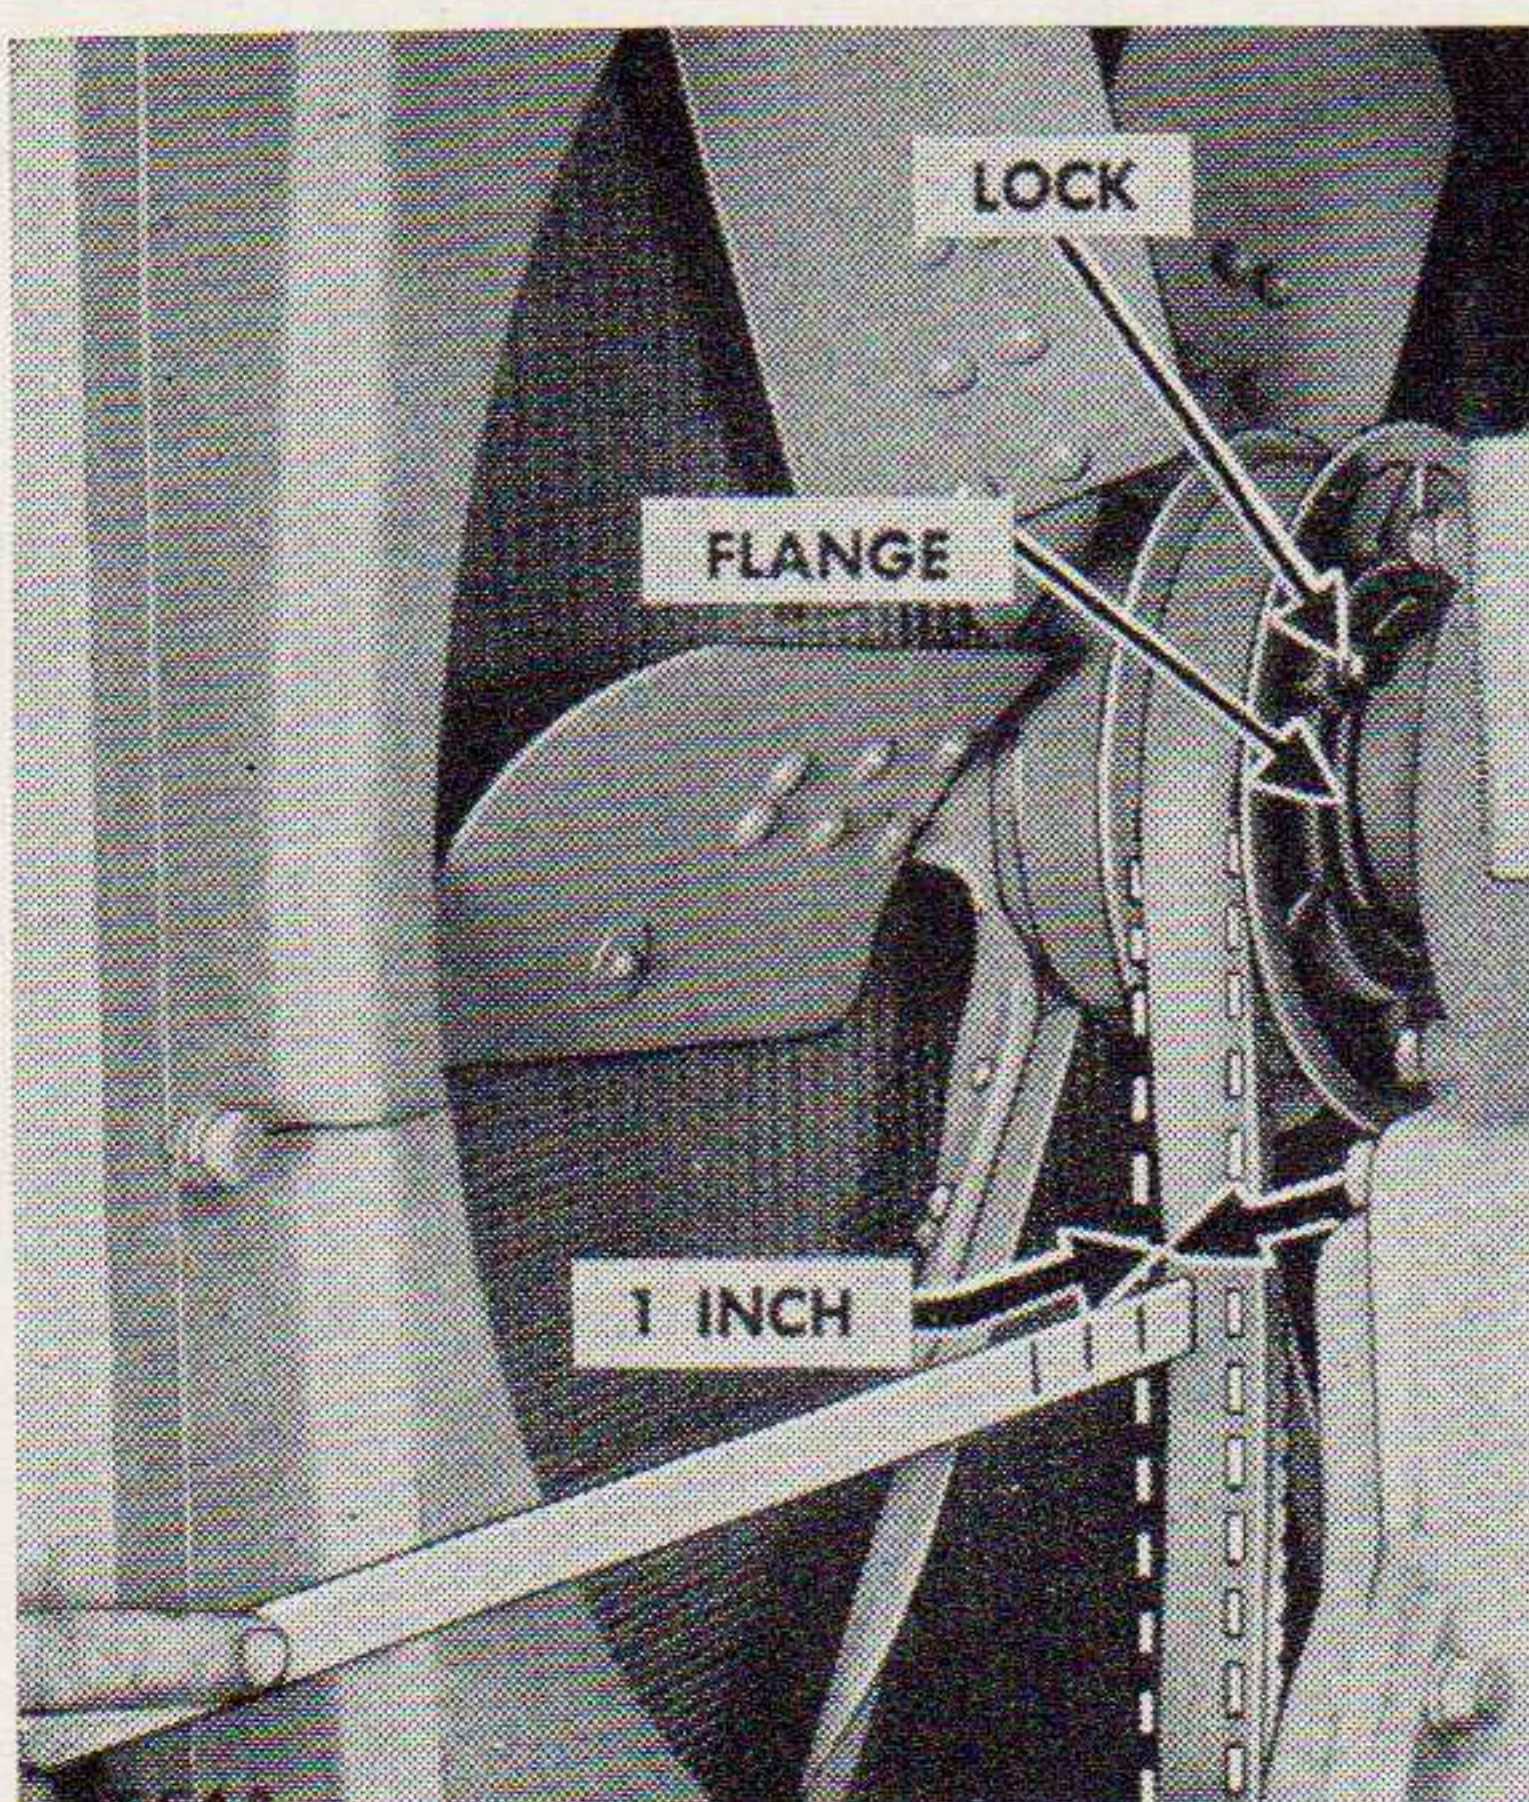

Figure 73. Adjusting fan belt.
- (1) *General.* The fan belt should be adjusted so that with a light pressure it can be pushed inward at the center approximately 1 inch. (See fig. 73.)